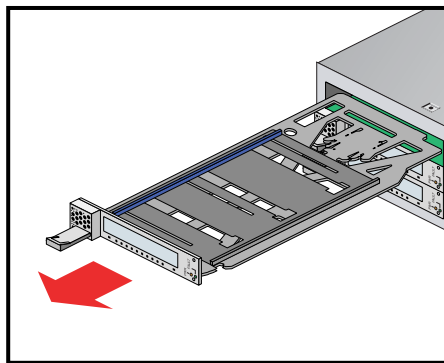

Figure 6-15 Removing a Card Carrier From the Three-Slot Blade
2. To extract the card carrier from a slot in the blade, pull the handle on the selected card carrier straight out, as shown in Figure 6-15.